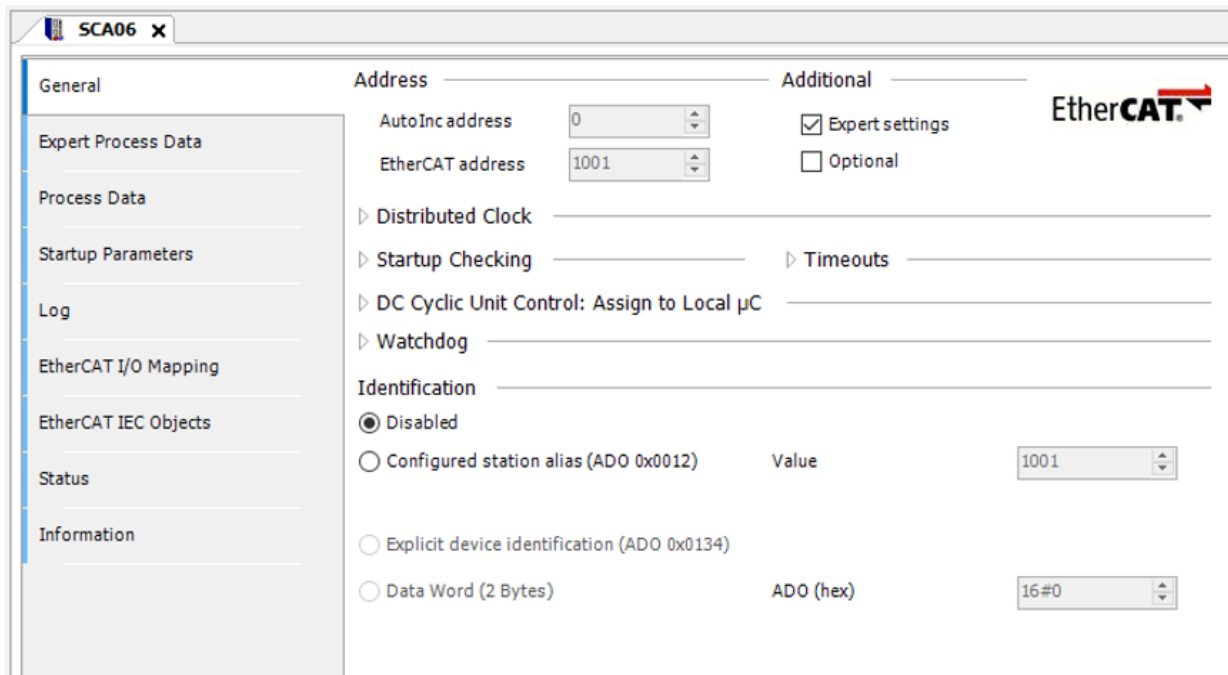

Figure 4.9: Enabling SCA06_SoftMotion advanced settings.
- Open the **SCA06_Motion** settings, and on the **General** tab, enable **Expert settings**. After that several advanced settings will be available, as shown in Figure 4.9.